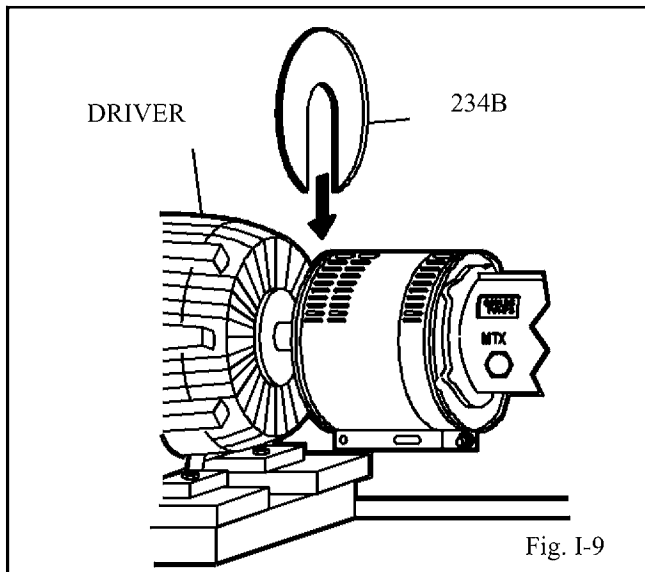

Fig. I-9
- Place end plate (driver end) over motor shaft as shown in Fig. I-9. Locate the end plate in the annular groove at the rear of the coupling guard half (driver end) and secure with a bolt, nut, and two (2) washers through the round hole at the rear of the guard half. Finger tighten only.
- Remove nut, bolt, and washers from coupling guard half (driver end), and remove end plate. Fig. I-9.